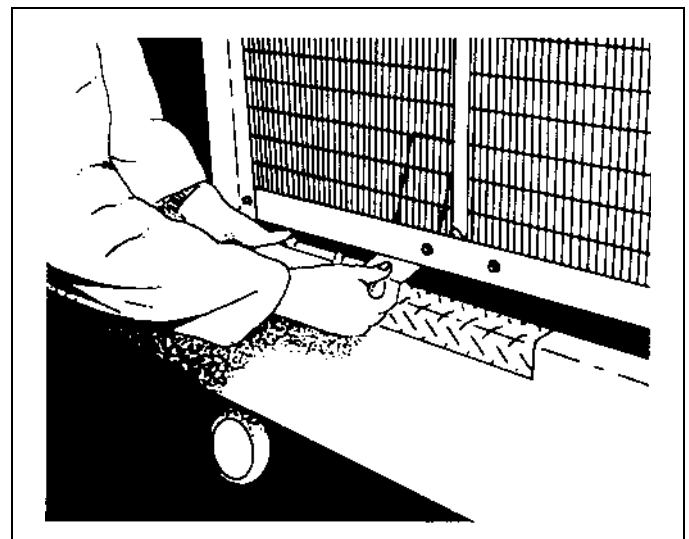

Figure 12-12 Inserting Paper Between Vanes
1. With the engine cold (under 66° C, 150° F), manually open the shutters by pushing down on the bellcrank. Insert a strip of paper between the shutter vanes. See Figure 12-12. Release the bellcrank, letting the shutter snap shut on the paper.